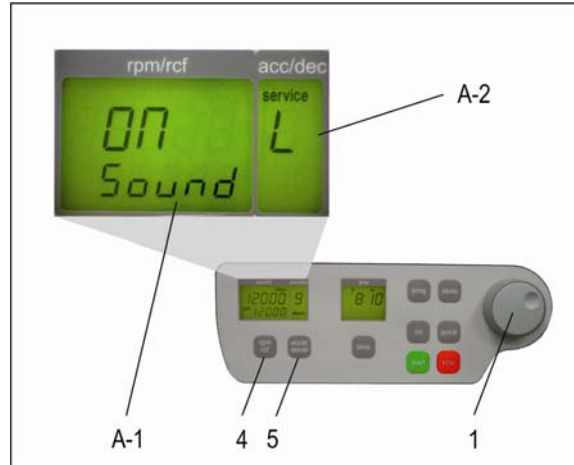

Figure 4
Proceed as described under point 1.7.1 to enter this program mode and then press the key „accel/decel“ (5). In the display „accel/decel“ (A-2) flashes the word „service“. Now select the letter „L“ with the adjusting knob (1). As a result appear in the display „rpm/rcf“ (4) the words „On Sound“. If you press the key „rpm/rcf“ (4) now, the word „On“ flashes and you can switch off the sound with the adjusting knob (1) (see figure 4).